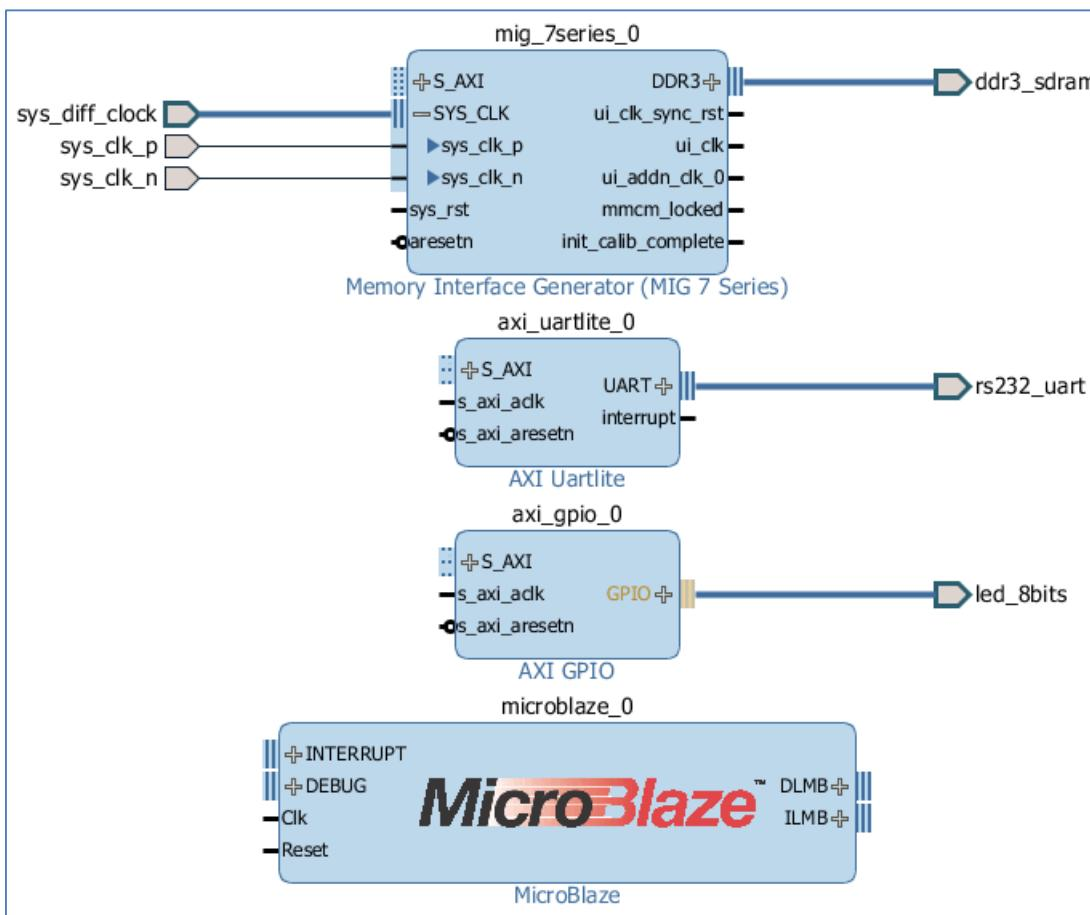

Figure 92: Block Design After Connecting the `rs232_uart` and the `led_8bits` Interfaces
9. The block design now should look like Figure 92.